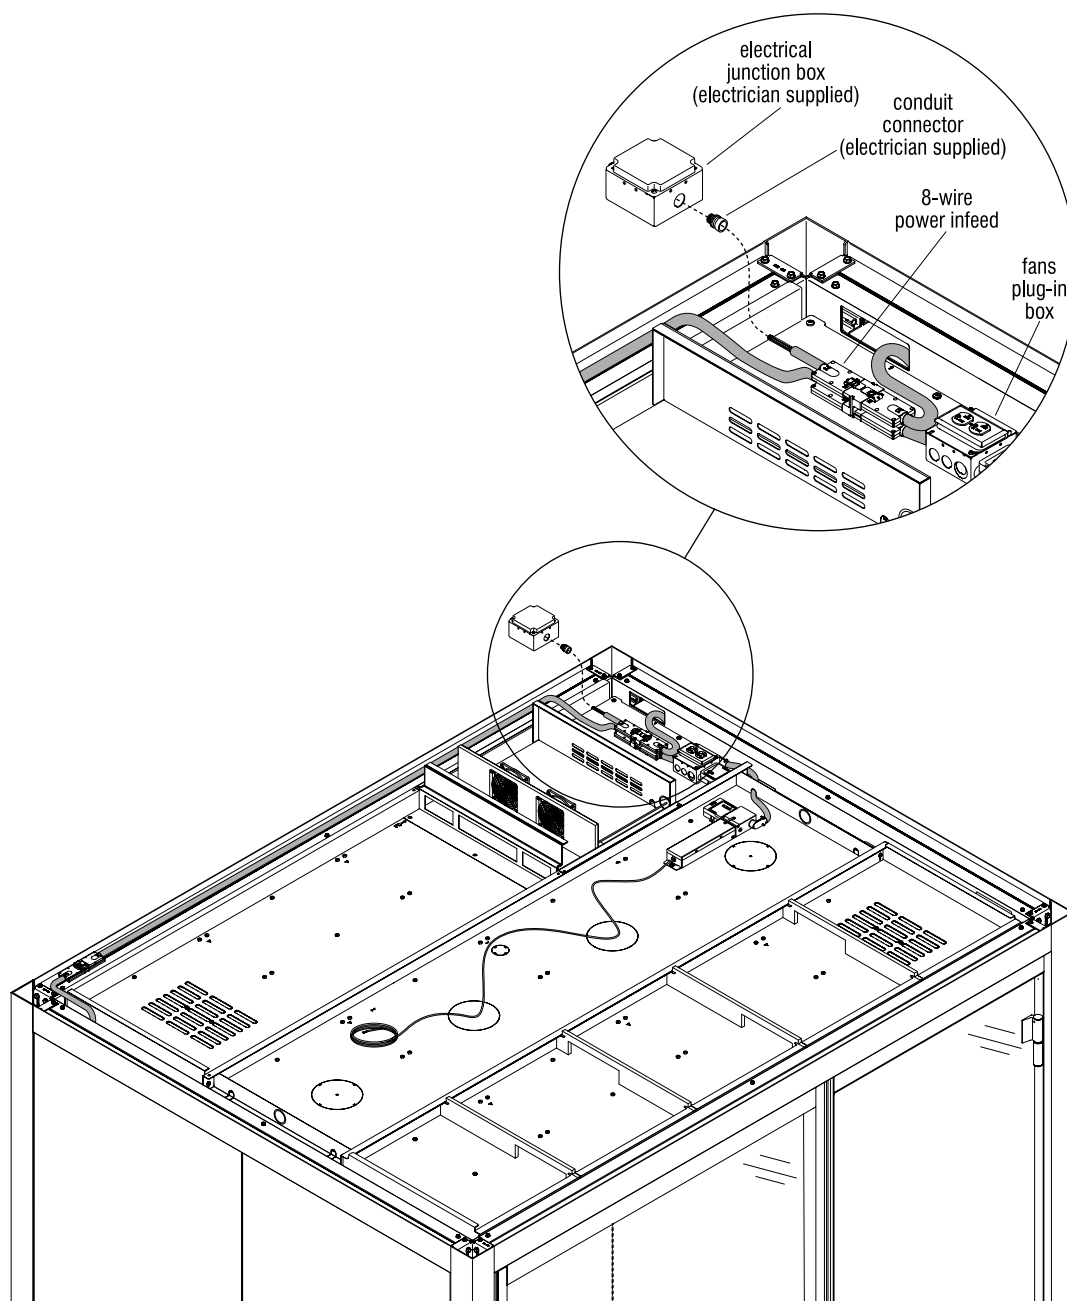

Figure 3
8. The pigtail conduit end of the 8-wire power infeed is to be connected into an electrician-supplied junction box using a conduit connector. The junction box will sit on the fan plank ceiling (Figure 3).